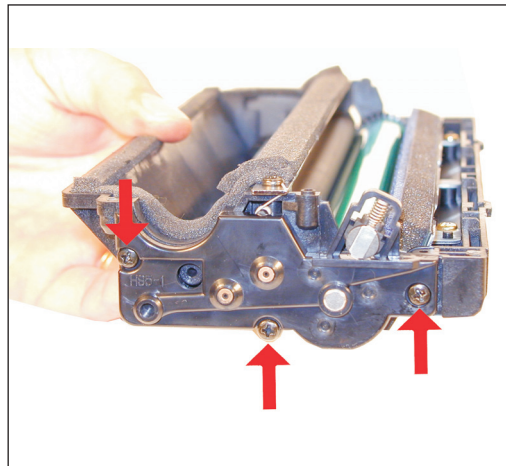

Figure 13
7) With the toner hopper away from you, remove the three screws on the left side end cap. Remove the end cap. See Figure 13